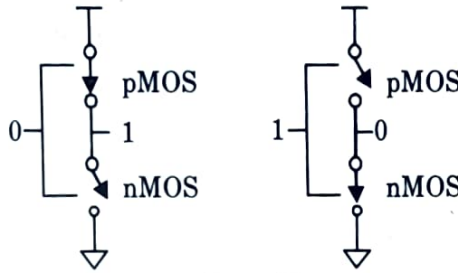

Fig. 4.11.1.
1. Considering the static CMOS inverter shown in Fig. 4.11.1, if the input = '0', the associated nMOS transistor is OFF and the pMOS transistor is ON. The output voltage is V_{DD} of logic '1'.